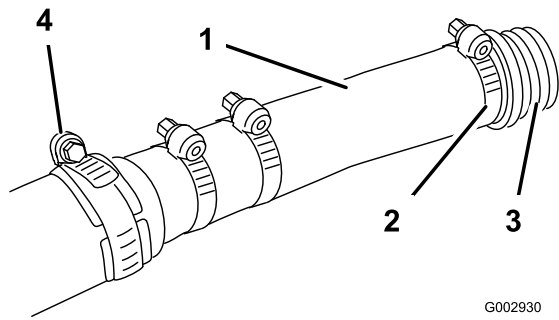

Figure 7
- Slide a large hose clamp (removed from the hose in step 2) over the hose and install the fitting all the way into the hose, securing it with the hose clamp (Figure 7).